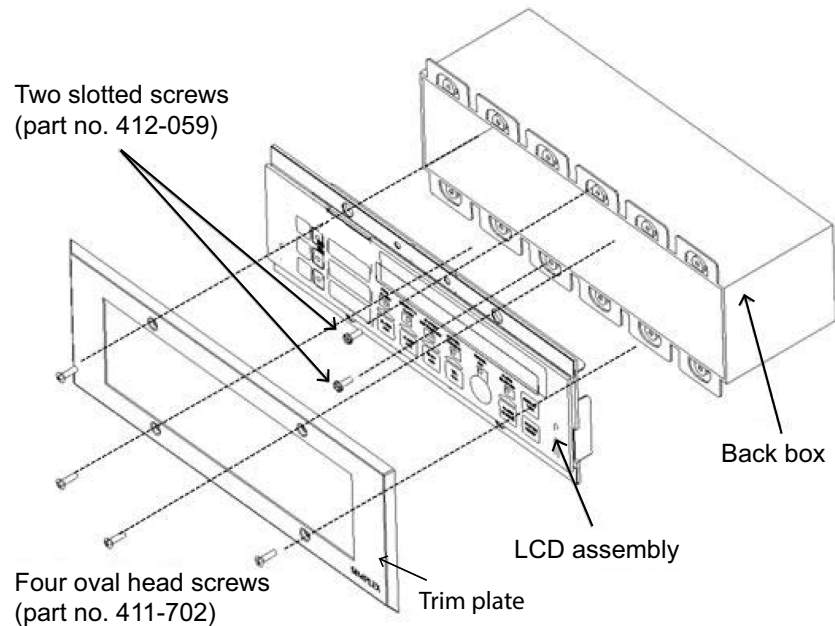

**Figure 5. LCD Assembly**
4. Mount the annunciator in the back box using the two slotted screws provided, see Figure 5.
- Use the holes specified in Figure 5 to install the LCD assembly.
5. Adjust the contrast located on the lower left-end corner of the electronics assembly, see Figure 5, using a small screw driver. Turn the potentiometer and observe the LCD display until the contrast is at the correct setting.